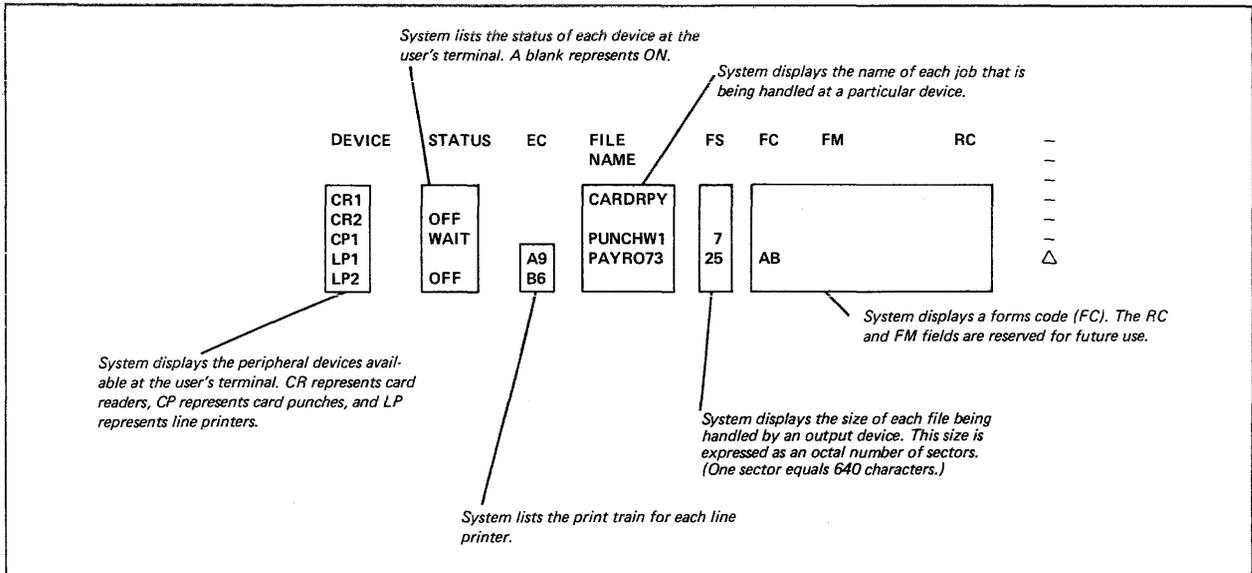

Figure 4-5. Device Status Display
- S = display of terminal device status; see figure 4-5.